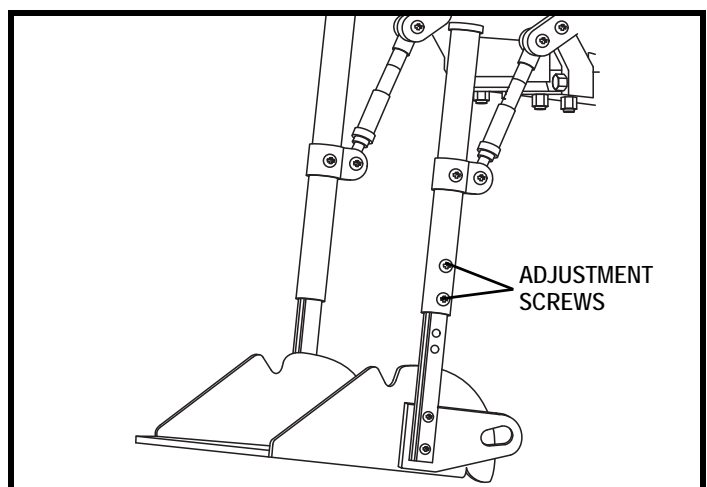

Figure 33. Kids ROCK 2 and ROCK 3 Leg Length Adjustment
2. Use a 5/32-in. hex wrench to loosen the two (2) adjustment screws on each side. **See figure 33.**